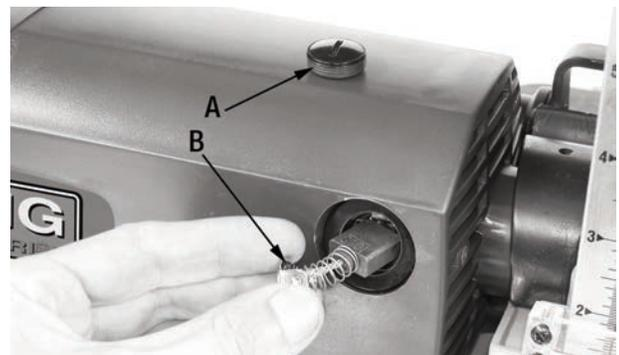

FIGURE 16
- 2) Using a flat head screwdriver, unscrew and remove the carbon brush cover (A) Fig.16.
- 3) Remove the motor carbon brush (B) Fig.16 from its housing as shown. Install the new identical carbon brush in its housing, then re-install the cover.